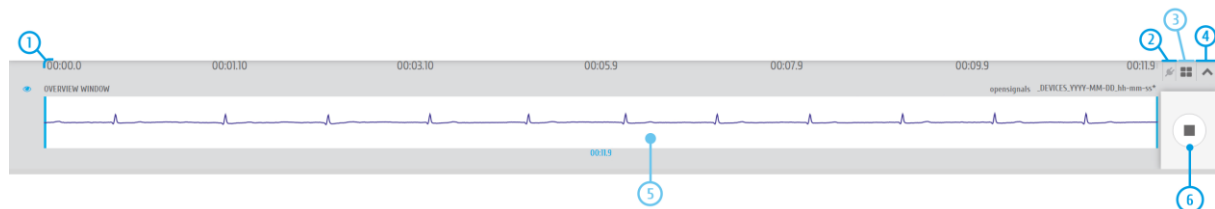

Figure 88: Control bar.
- Time axis (x-axis; 1 in Figure 88)
- Access *OpenSignals (r)evolution* add-ons (2 in Figure 88)
- Multi-channel visualization modes (3 in Figure 88)
- Hide/Unhide all channels (4 in Figure 88)
- Overview window (x-axis adjustments; 5 in Figure 88)
- Return to *OpenSignals*' main interface (6 in Figure 88)